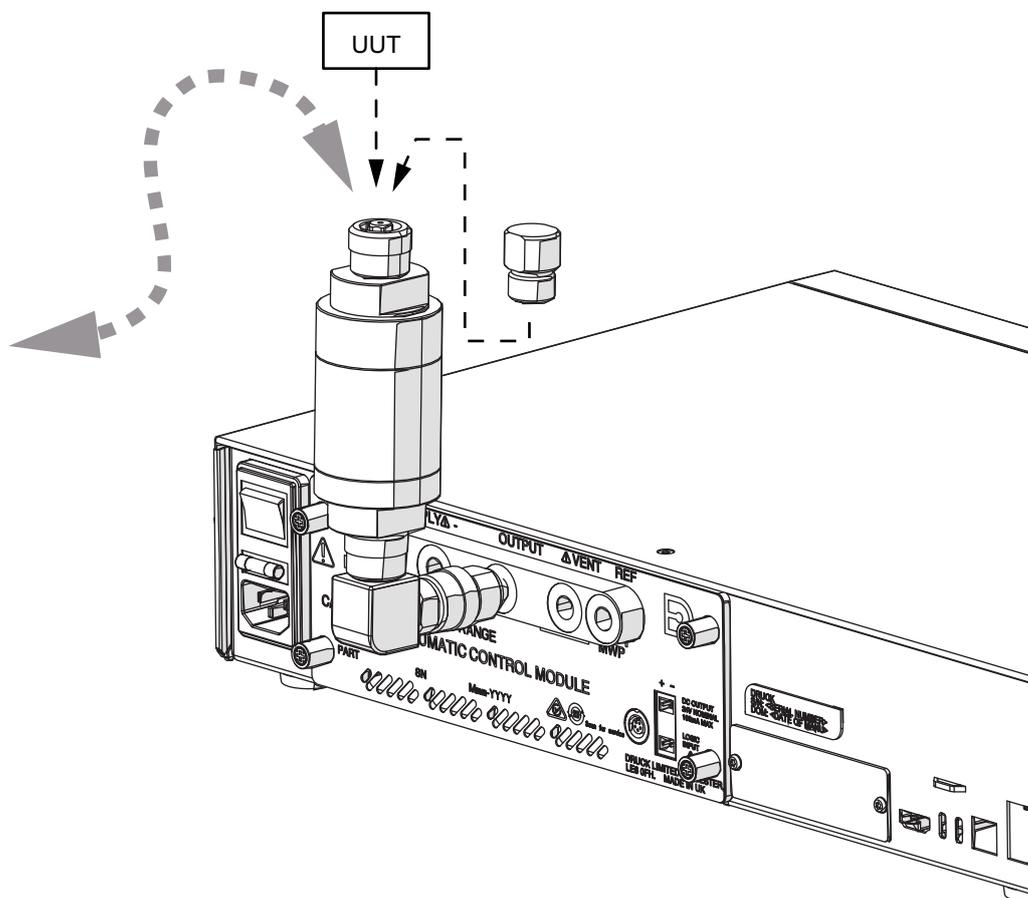

Figure D-5: Fitted to PACE5000 E Instrument
2. Fit the assembly to the OUTPUT port of the PACE instrument as shown in Figure D-5.